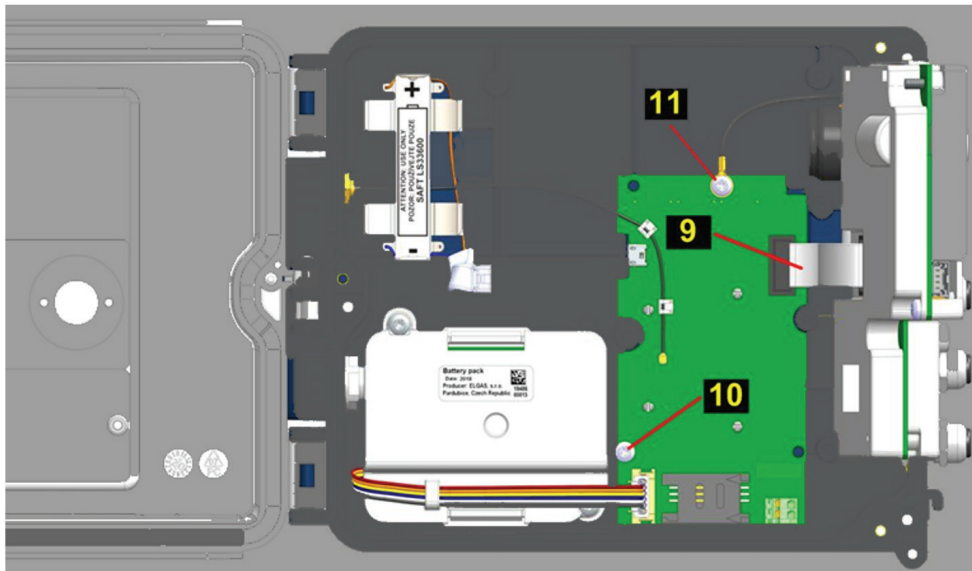

Fig. 40 Replacing the modem - removing the modem itself
4. Removing the Internal Modem Board (Fig. 40)